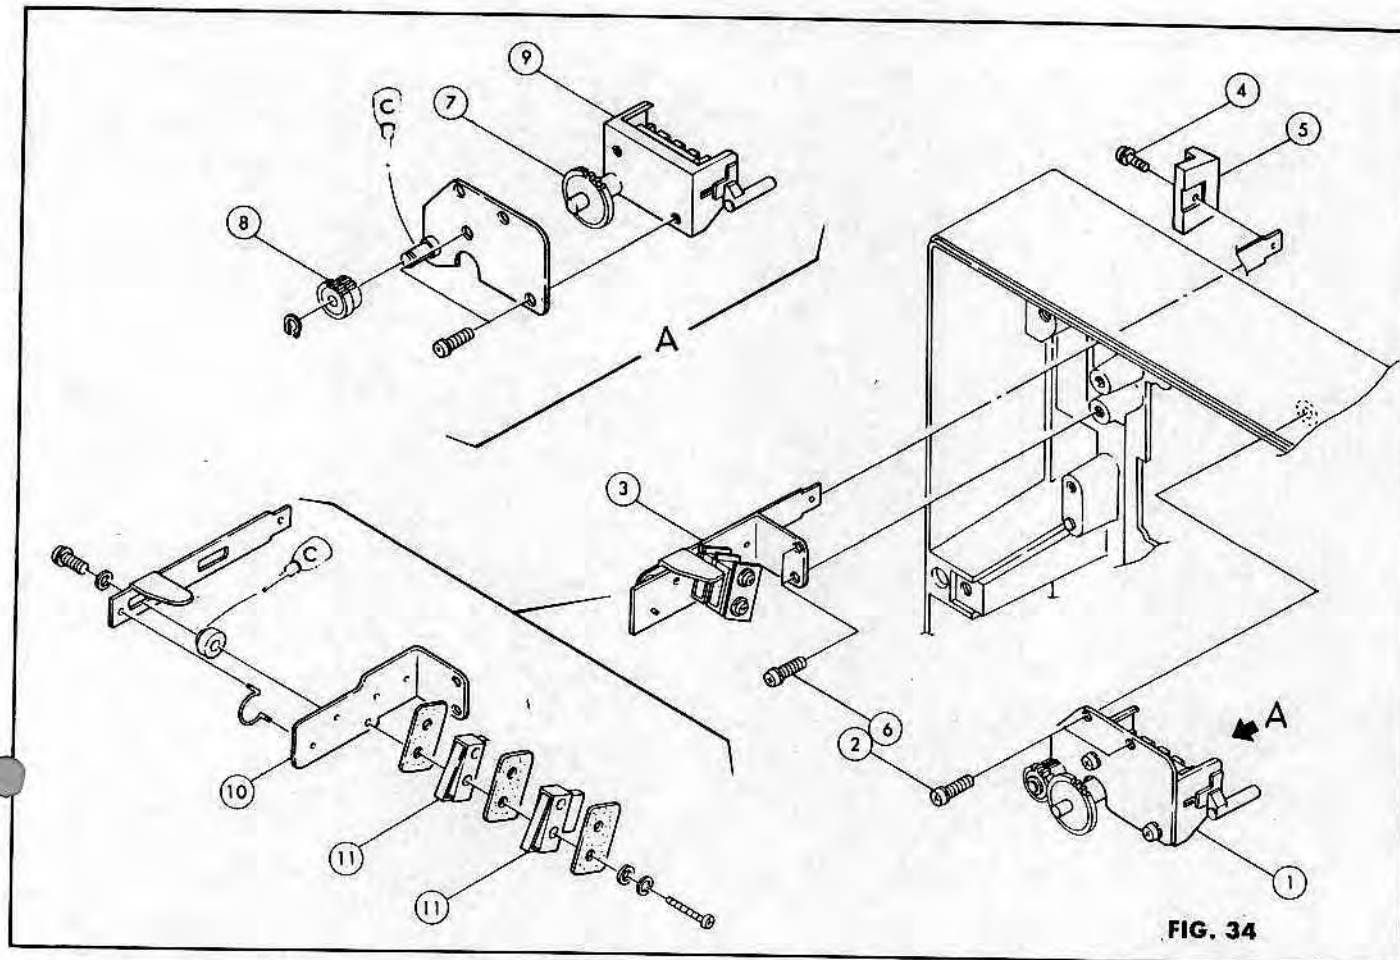

FIG. 34
TROUBLESHOOTING: (Refer to Fig. 34)
1. Unscrew the (2)x2 and take off the (1).
2. Unscrew the (4) and take off the (5).
3. Unscrew the (6) and take off the (3).
4. For further disassembly, refer to Fig. 34.